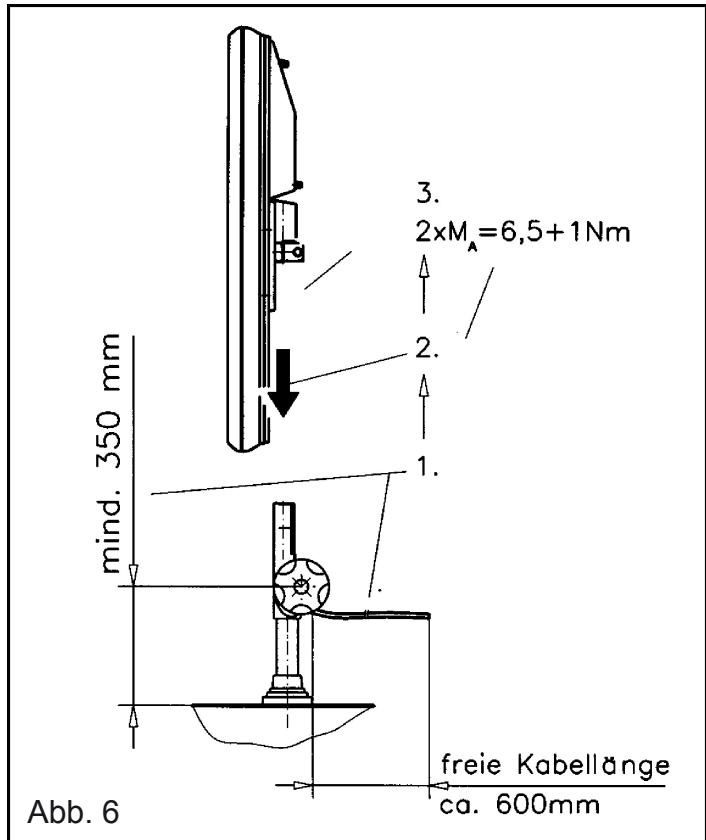

Abb. 6
Mounting the antenna (Fig. 6)
1. Prepare the mast swivel head as shown in Fig. 6